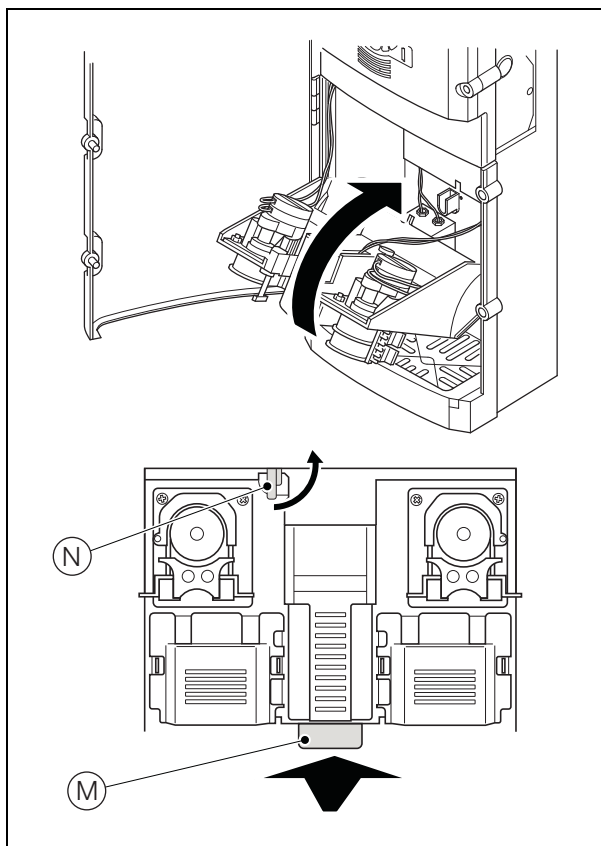

Fig. 4.9 Closing the Analytical Section
3. Referring to Fig. 4.9:
- b. Push the analytical section rearward using handle (M) and secure in position with catch (N).